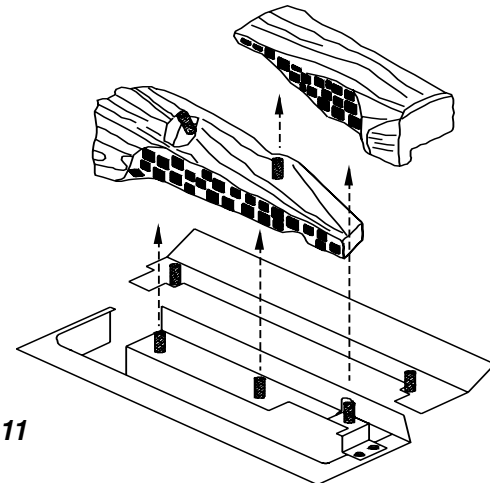

Figure 11
- 3) The left front log has two pegs protruding from the top surface (*Figure 11*). The charred black with white highlights surface of the log should be facing forward. Slide this log down onto the left front and center front pegs.
- 4) The right front log (positioned with the black charred surface towards the front) should be placed on the peg protruding from the right end of the left front log and the remaining peg at the right end of the metal log support panel (*Figure 11*).